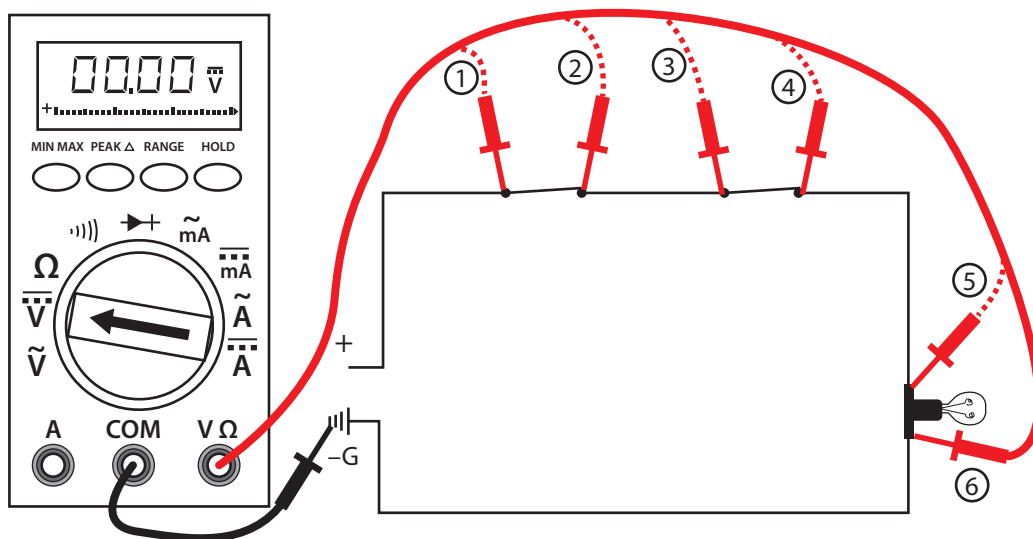

Figure 1
- Refer to Figure 1. If you have a reading at point 4, but not at 5, what is the problem?
5. Refer to Figure 1. If you have a reading at 5 and zero at 6, what is the problem?